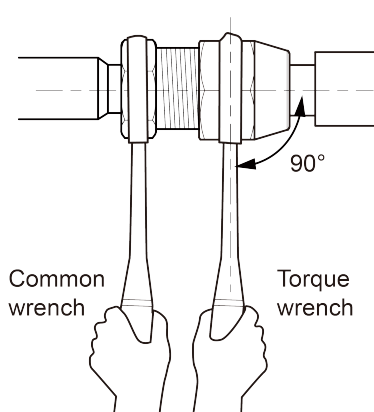

Fig.4.12
- (3) Use torque wrench to twist on the flared nut tightly until the wrench gives out a click sound (Hold the handle of wrench and make it at right angle to the pipe. as in Fig.4.12).
- (4) Use sponge to wrap the un-insulated connection pipe and joint. Then tie the sponge tightly with plastic tape.
- (5) Connection pipe should be supported by a bearer rather than the unit.
- (6) The bending angle of piping should not be too small; otherwise the piping might have cracks. Please use a pipe bender to bend the pipe.
- (7) When connecting IDU with connection pipe, do not pull the big and small joints of IDU with force in case the capillary tube or other tubes have cracks and cause leakage.